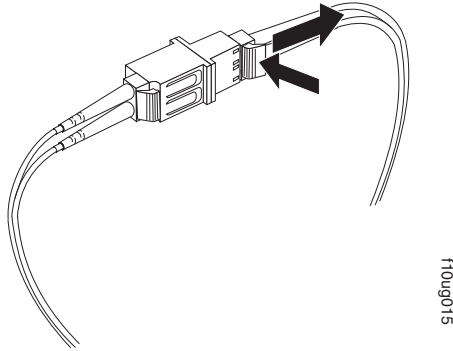

Figure 34. Removing the LC-LC fibre-channel cable from an LC-SC fibre-channel cable adapter
2. Carefully pull on the connector to remove it. Make sure you grasp the connector and not the cable when removing the LC-LC cable from the LC-SC cable adapter as shown in Figure 34 on page 60.